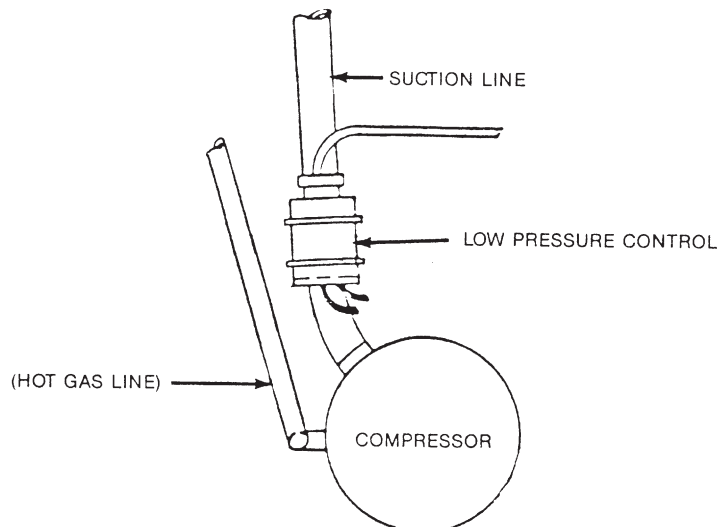

FIGURE 1. LOW PRESSURE CONTROL ATTACHED (CUBE OR RECTANGLE)
2. Position the low pressure control on suction line piping and secure in place with two wire ties provided. See Figure 1.